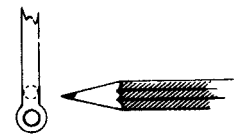

Fig. 5
1. The occlusal side of the pattern comes marked with a circular spot. However, since the portion of the pattern marked with the spot may be later cut off, we suggest marking the occlusal of the female eyelet with a pencil or a Sterngold Indelible Marking Pen (order no. 812015) (Fig. 5).